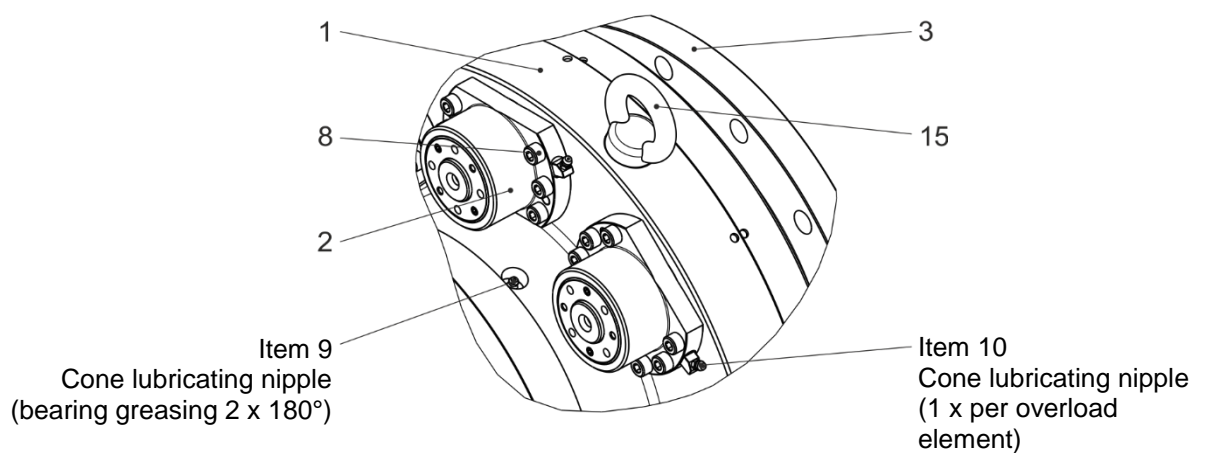

Fig. 2
- Re-greasing the overload elements (2) via the cone lubricating nipples (Item 10/ Fig. 2) and the bearings via the cone lubricating nipples (Item 9 / Fig. 2) at least every 20 overload occurrences or 1x per year, with approx. 3 – 4 thrusts of grease (approx. 5 ccm) from a grease gun.
- Re-greasing of the bearings via the cone lubricating nipples (Item 9 / Fig. 2) in the flange hub (1), 2 x 180° offset.
- Re-greasing of the contact components of the overload elements (2) via the cone lubricating nipples (10) on each overload element (2), see Fig. 2.